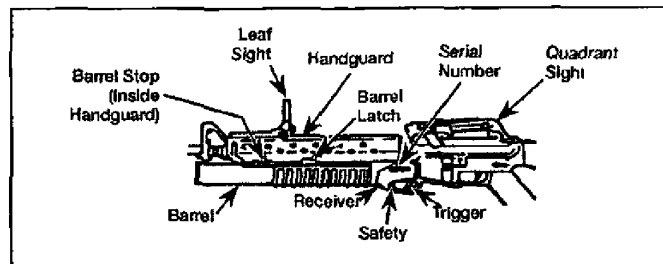

Figure 071-311-2125-1. Components of the M203 grenade launcher
2. Disassemble the M203 (figure 071-311-2125-1).